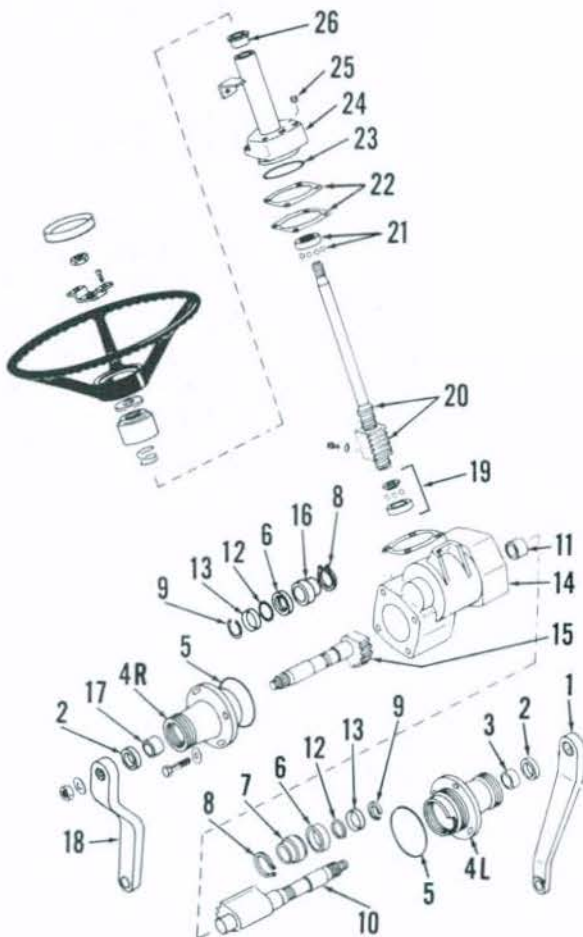

Fig. 6—Exploded view of typical manual steering gear used on MF230 and some MF235 models.
filled to the level of the opening for plug (25—Fig. 6) with SAE 90 gear lubricant.
5. OVERHAUL. To overhaul the removed unit, first remove the right pinion housing (4R—Fig. 6) and shaft (15), then remove the left pinion housing (4L) and shaft (10). Unbolt shaft housing (24) and withdraw housing and shaft (20). Eleven loose balls should fall from upper bearing (21) and eleven from lower bearing (19). Pitman shafts (10 and 15) and related parts can be withdrawn from housing (4L or 4R) after snap ring (8) is removed as shown in Fig. 7. Parts of the ball nut and shaft (20—Fig. 6) are not available separately and should not be disassembled.
After steering shaft ball nut is installed, turn the steering shaft until the ball nut is at bottom. Position the steering gear as normally installed on the tractor, and install the left pitman shaft (10) and housing (4L) assembly. The flat identification boss on left housing (4L) should be down when installed. The marked (3rd) tooth on left pinion (10) should be aligned with center valley of ball nut rack (20) as shown in Fig. 8. Turn the steering shaft until ball nut is moved to top and install the right pitman shaft (15—Fig. 6) and housing (4R) assembly. The first tooth on right pinion (15) should be aligned with the first valley on left pinion (10) as shown in Fig. 9. The flat identification boss on right housing (4R—Fig. 6) should be toward front when installed correctly.